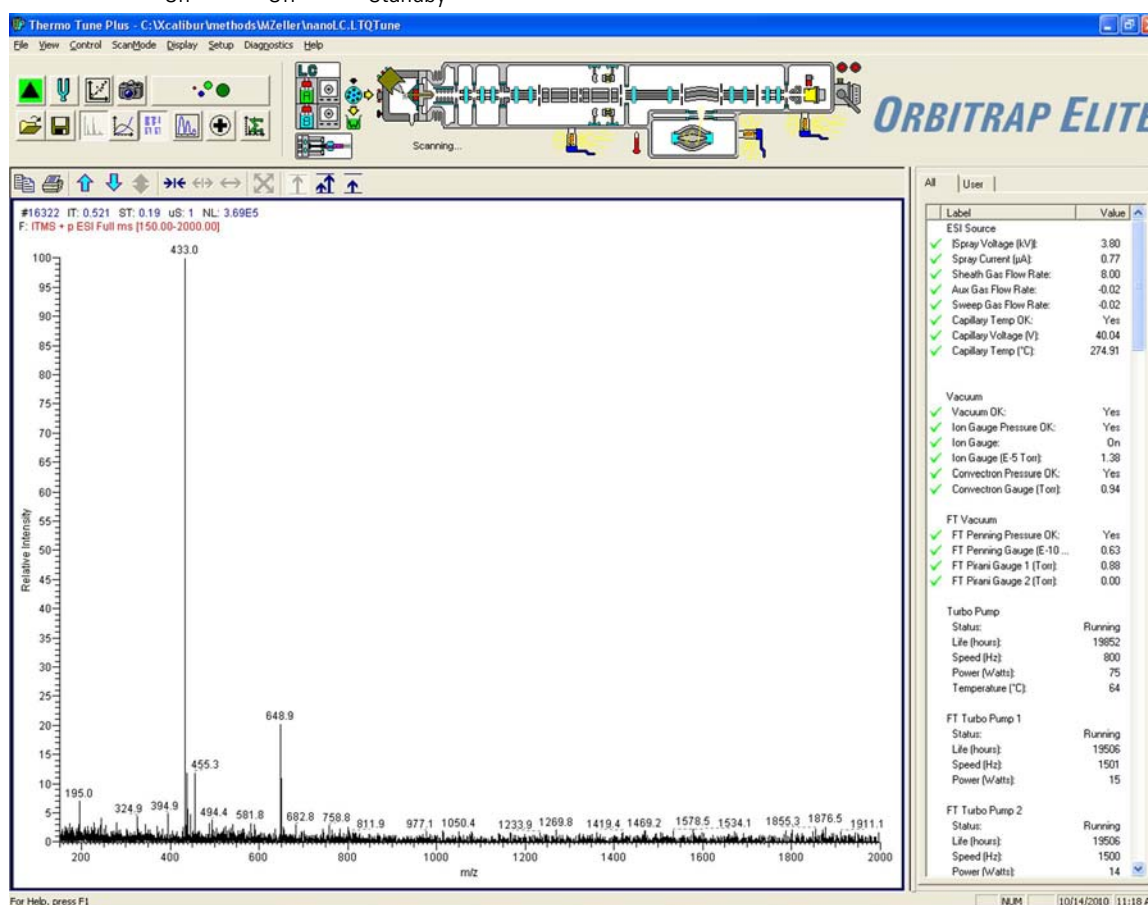

Figure 7-27. Tune plus window showing a mass scan of infused Angiotensin I
2. Click **On/Off/Standby** to On. The mass spectrometer scans the infused analyte and produces a mass spectrum. See Figure 7-27.